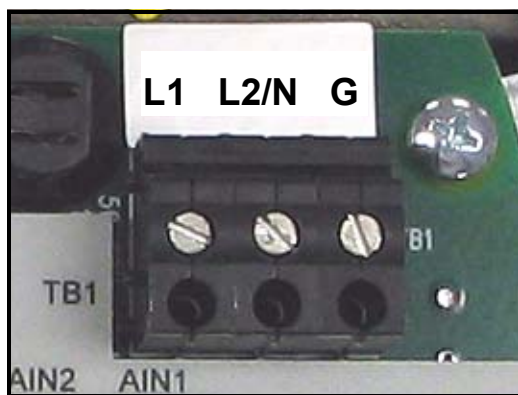
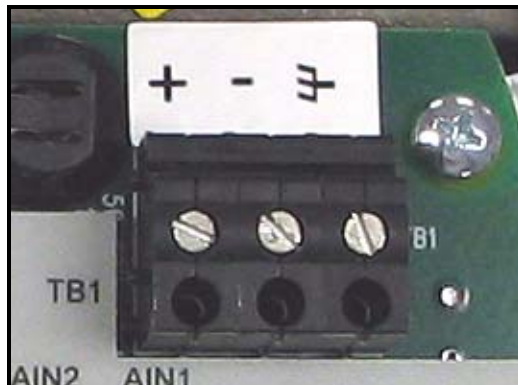

Figure 13: Wiring the AC Line Power
Figure 14: Wiring the DC Line Power
See Figure 13 on page 23 to locate terminal block TBI and to connect the line power as outlined below:
2. Route the cable through one of three conduit inlet ports (see Figure 12 above) and connect the line power leads to the terminal block TBI, using the pin number assignments shown in Figure 27 on page 34 and Figure 13 or Figure 14 on page 23.
3. Run the AC power connections to the Power Terminal Block shown in Figure 13 below. It is recommended to use 12-18 AWG (3.3 - 0.82 mm2) power wiring.
5. Route the cable through one of three conduit inlet ports (see Figure 12 above) and connect the line power leads to terminal block TB1, using the pin assignments shown in Figure 27 on page 34 and Figure 13 or Figure 14 below.